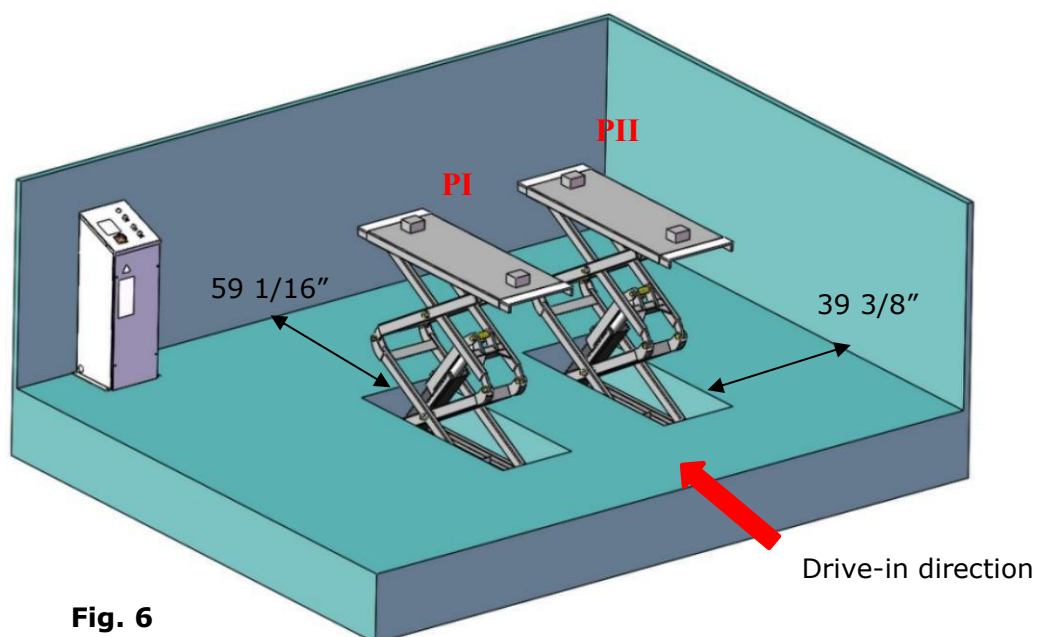

Fig. 6
1. Installation space: Ensure there is enough space for the lift. Accurately measure the front, back, side and top mounting dimensions and refer to the below figure data (**See Fig. 6**).